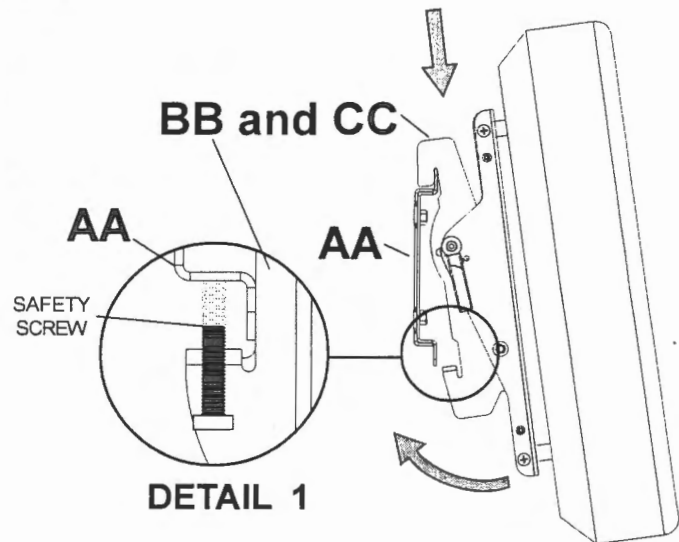
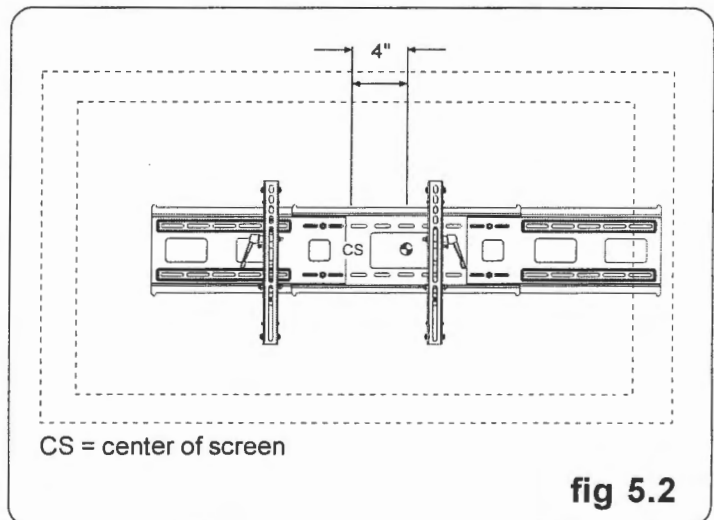

fig 5.1
fig 5.2
- 5** **NOTE:** For security, replace safety screw in each tilt bracket with M5 x 30 security screw (HH) using wrench (II).
Adjust brackets to full back tilt position and tighten. Hook tilt brackets (**BB and CC**) onto wall plate (**AA**). Then slowly swing screen in as shown. Turn safety screws, using wrench (II), clockwise till fully tightened down and screw tip securely contacts bottom of the wall plates as shown in detail 1. of figure 5.1. Center of screen can be adjusted horizontally no more than 4" from center of the wall plate configuration, if desired as shown in figure 5.2.